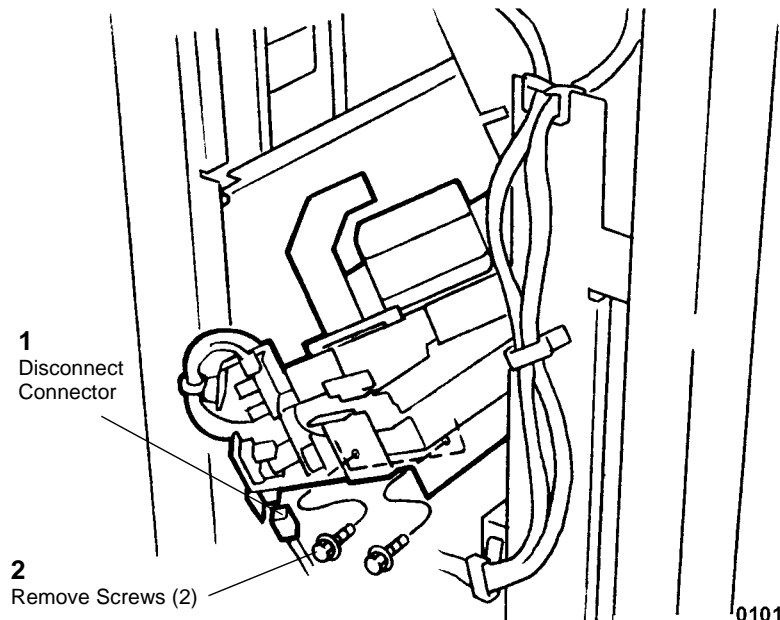

Figure 6 Removing Front Rail Mounting Screws
7. Remove Front Rail Mounting Screws (2) (Figure 6).